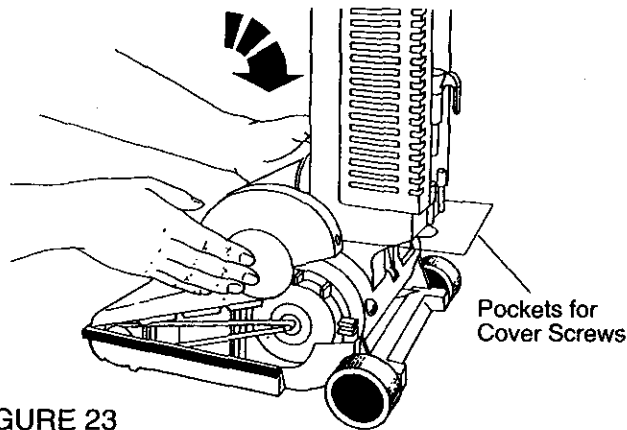

FIGURE 23
- Replace Cover by hooking all 3 Cover lock tabs into the 3 tab slots of the Base Assembly. (Figure 23)